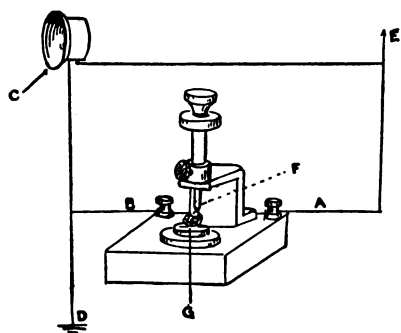

Fig. 1
There are a great many kinds and forms of detectors in use; but as a rule they consist of some kind of mineral placed between two adjustable points, as shown in Fig. 1. To the two terminals (A, B) wires are connected with a telephone receiver (C), and the ground-wire (D). The other terminal of the receiver runs to the aerial (E).